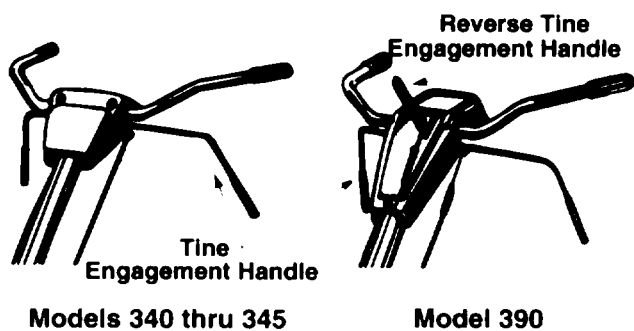

Figure 8
- With tine engagement handle in neutral (released) as shown in Figure 8, pull the starter rope several times. **The tines should not turn.** If they turn forward, loosen the hex nut on the forward cable (underneath the handle assembly). See . If they turn toward the rear (model 390 only), loosen the hex nut on the reverse cable (above the handle assembly). Unthread the rod from the cable 2 or 3 turns. Retighten the hex nut, and check again for correct adjustment. See Figure 8.
The forward tine engagement handle is located beneath the tiller handle. (See Figure 8). Squeezing the handle up against the tiller handle engages the tines. Release the handle to stop the tines.
The reverse tine drive clutch lever is located on top of the handle panel. (See Figure 8). Pull the lever to the rear to move the tines in reverse. Release the lever to stop the reverse tine drive.
2. Make certain all controls are in the neutral position (released). (See Figure 8).